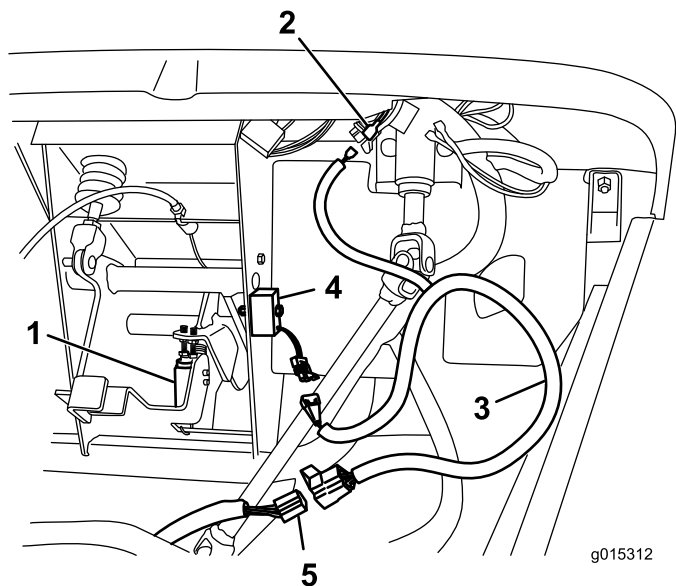

Figure 1
1. Secure the key-start module to the pedal-assembly frame using a bolt (1/4 x 1-3/8 inch) and a flange nut (1/4 inch) as shown in Figure 1.
2. Disconnect the existing wire-harness connector from the pedal switch (Figure 1).
3. Locate the front, key-start harness (Figure 1) in the loose parts.
4. Connect the front, key-start harness to the key-start module with the matching connector, and connect the opposite end to the existing wire-harness connector (Figure 1).
5. Locate the lead from the existing wiring labeled Key Start (Figure 1).
6. Connect the key-start lead on the front, key-start harness to the labeled lead on the vehicle (Figure 1).